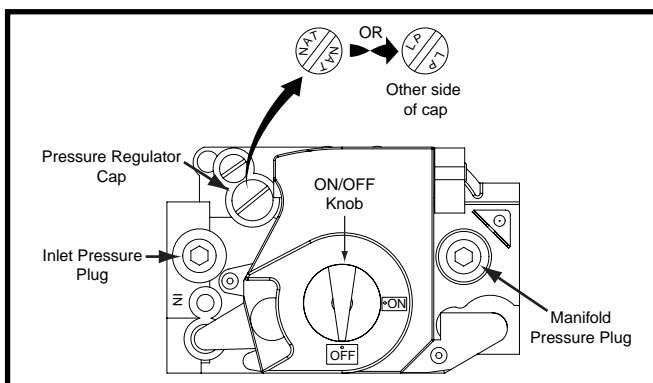

Figure 36. Gas Valve - Top View
This furnace can be converted from factory-equipped natural gas to Liquid Propane gas. Conversion of this valve requires replacement of the burner orifices on the manifold assembly and flipping the regulator cap to the side marked LP. See Figure 36 below. The orifices required for conversion are supplied with the furnace.
- To prevent cross threading, screw the orifices (7) into the gas manifold assembly (5) by hand until snug, then tighten with a wrench.
12. Install the appropriate LP/Propane orifices (7) into the gas manifold assembly (5).
13. Remove the pressure regulator cap (Figure 36) from the gas valve.
1. Remove the inlet pressure plug (Figure 36 (page 28)) from the INLET side of the gas valve with a 3/16 Allen wrench.
1. Remove the manifold pressure plug (Figure 36 (page 28)) from the outlet side of the gas valve with a 3/16 Allen wrench.
6. If the manifold pressure is not set to the pressure specified in Table 13, remove the pressure regulator cap (Figure 36) from the gas valve. Slowly turn the adjusting screw underneath the cap with a small screwdriver until the appropriate manifold pressure is obtained. **NOTE:** Turning the screw clockwise increases the pressure, turning the screw counter-clockwise decreases the pressure.
7. After the manifold pressure is properly set, replace the cap so that the letters facing up represent the type of gas being used for the furnace. See Figure 36.
4. Turn the gas valve ON/OFF knob (Figure 36) to the ON position.